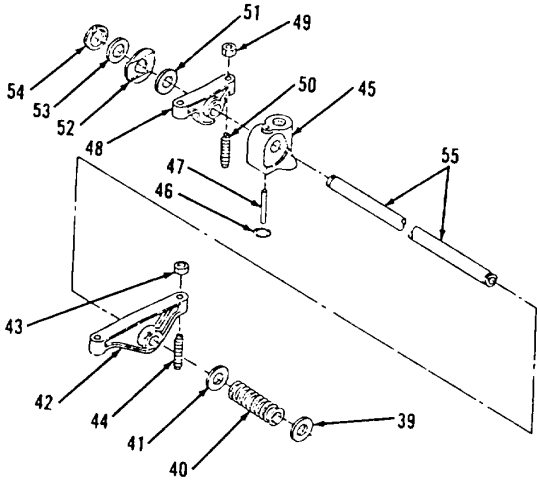

Figure 3-55.
2. Install ring (54), washer (53), spring (52) and washer (51) on shaft (55, Figure 3-55).
3. Install screw (50) and lock nut (49) in arm (48). Loosely tighten lock nut (49).
5. Position bracket (45) on shaft (55, Figure 3-55). Align bracket (45) with large hole on end.
6. Using hammer, install dowel (47) in bracket (45). Dowel (47) must extend 0.378 inch out of bracket (45).
7. Install new preformed packing (46) in bracket (45).
- 9. Install screw (44) and lock nut (43) in arm (42). Loosely tighten lock nut (43, Figure 3-55).
- 11. Install washer (41), spring (40) and washer (39) on shaft (55, Figure 3-55).